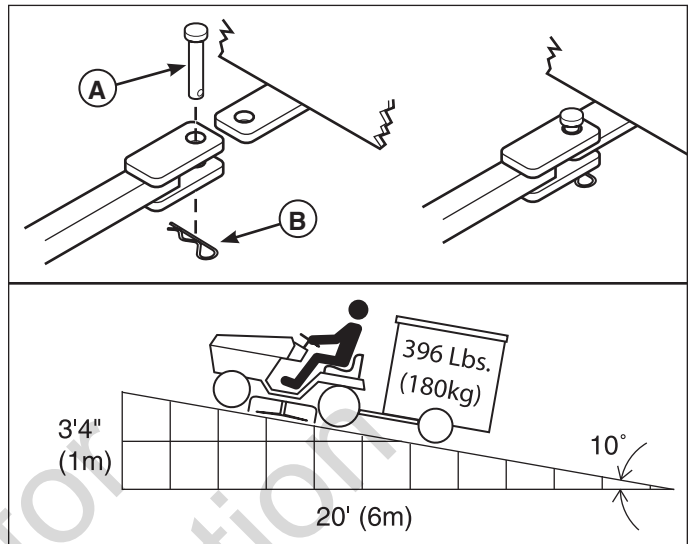

Figure 9
The maximum horizontal drawbar force allowed 444 Newton. The maximum vertical drawbar force is 222 Newton. This equates to a 396 lbs (180 kg) trailer on a 10 degree hill. Secure the trailer with an appropriately sized clevis pin (A, Figure 9) and clip (B).